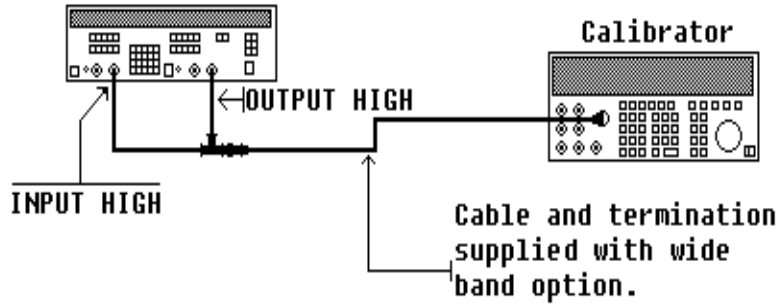

Figure 7. SINAD measurement.
- (1) Connect equipment as shown in figure 7.